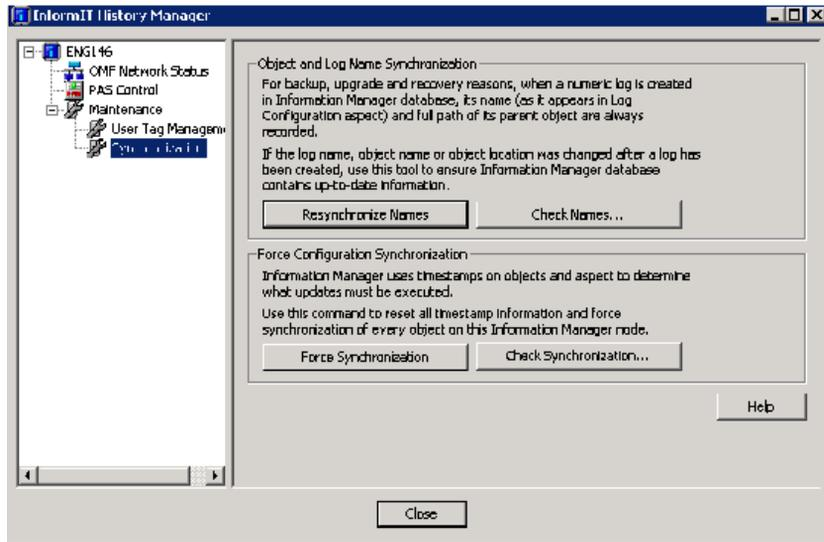

Figure 68. Inform IT History Manager
5. Expand the Maintenance tree in the Preview Area and select Synchronization. The Inform IT History Manager shown in Figure 68 appears in the Preview Area.